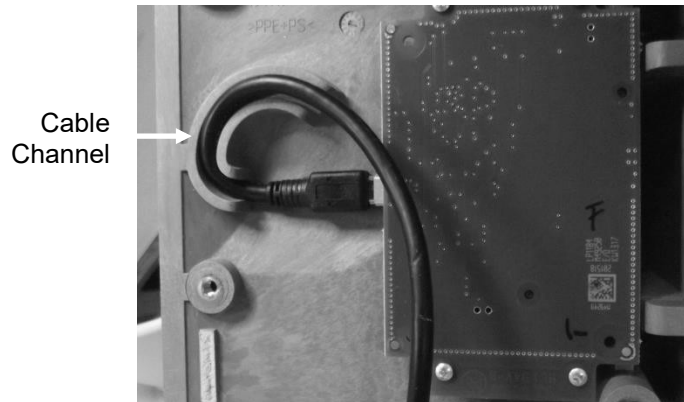

Figure 18
28. Press the USB Cable into the cable channel shown in Figure 18 below.